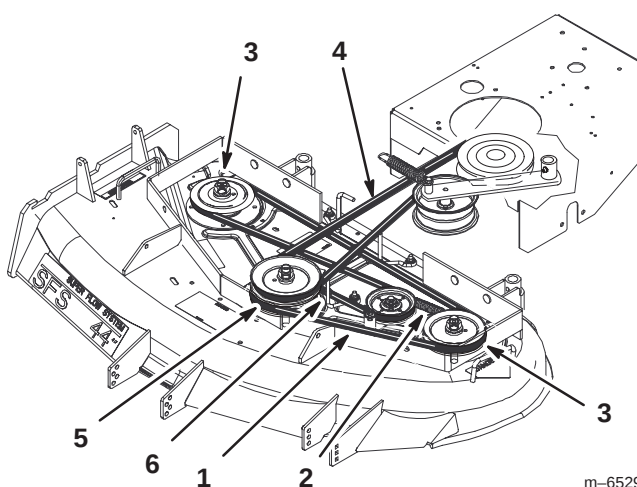

Figure 61
5. Disconnect the idler arm spring to relieve tension on the idler arm and idler pulley, then remove the worn deck belt (Fig. 61).
6. Install the new deck belt around the two outside spindle pulleys, the idler pulley, and in the lower groove of the center spindle pulley (Fig. 61).
7. Connect the idler arm spring (Fig. 61).
9. Adjust deck belt guide an 1/8 inch (3 mm) from belt (Fig. 61).